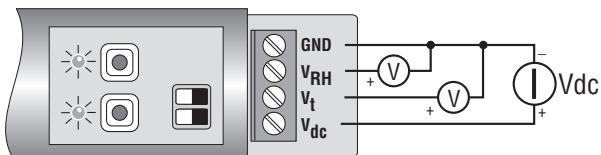
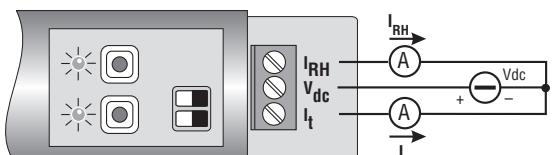

Fig. 5
Fig. 6
- Connect the wires to provide the instrument with power supply, as shown in the connection diagrams (Fig. 5: HD9008TRR and Fig. 6: HD9009TRR).